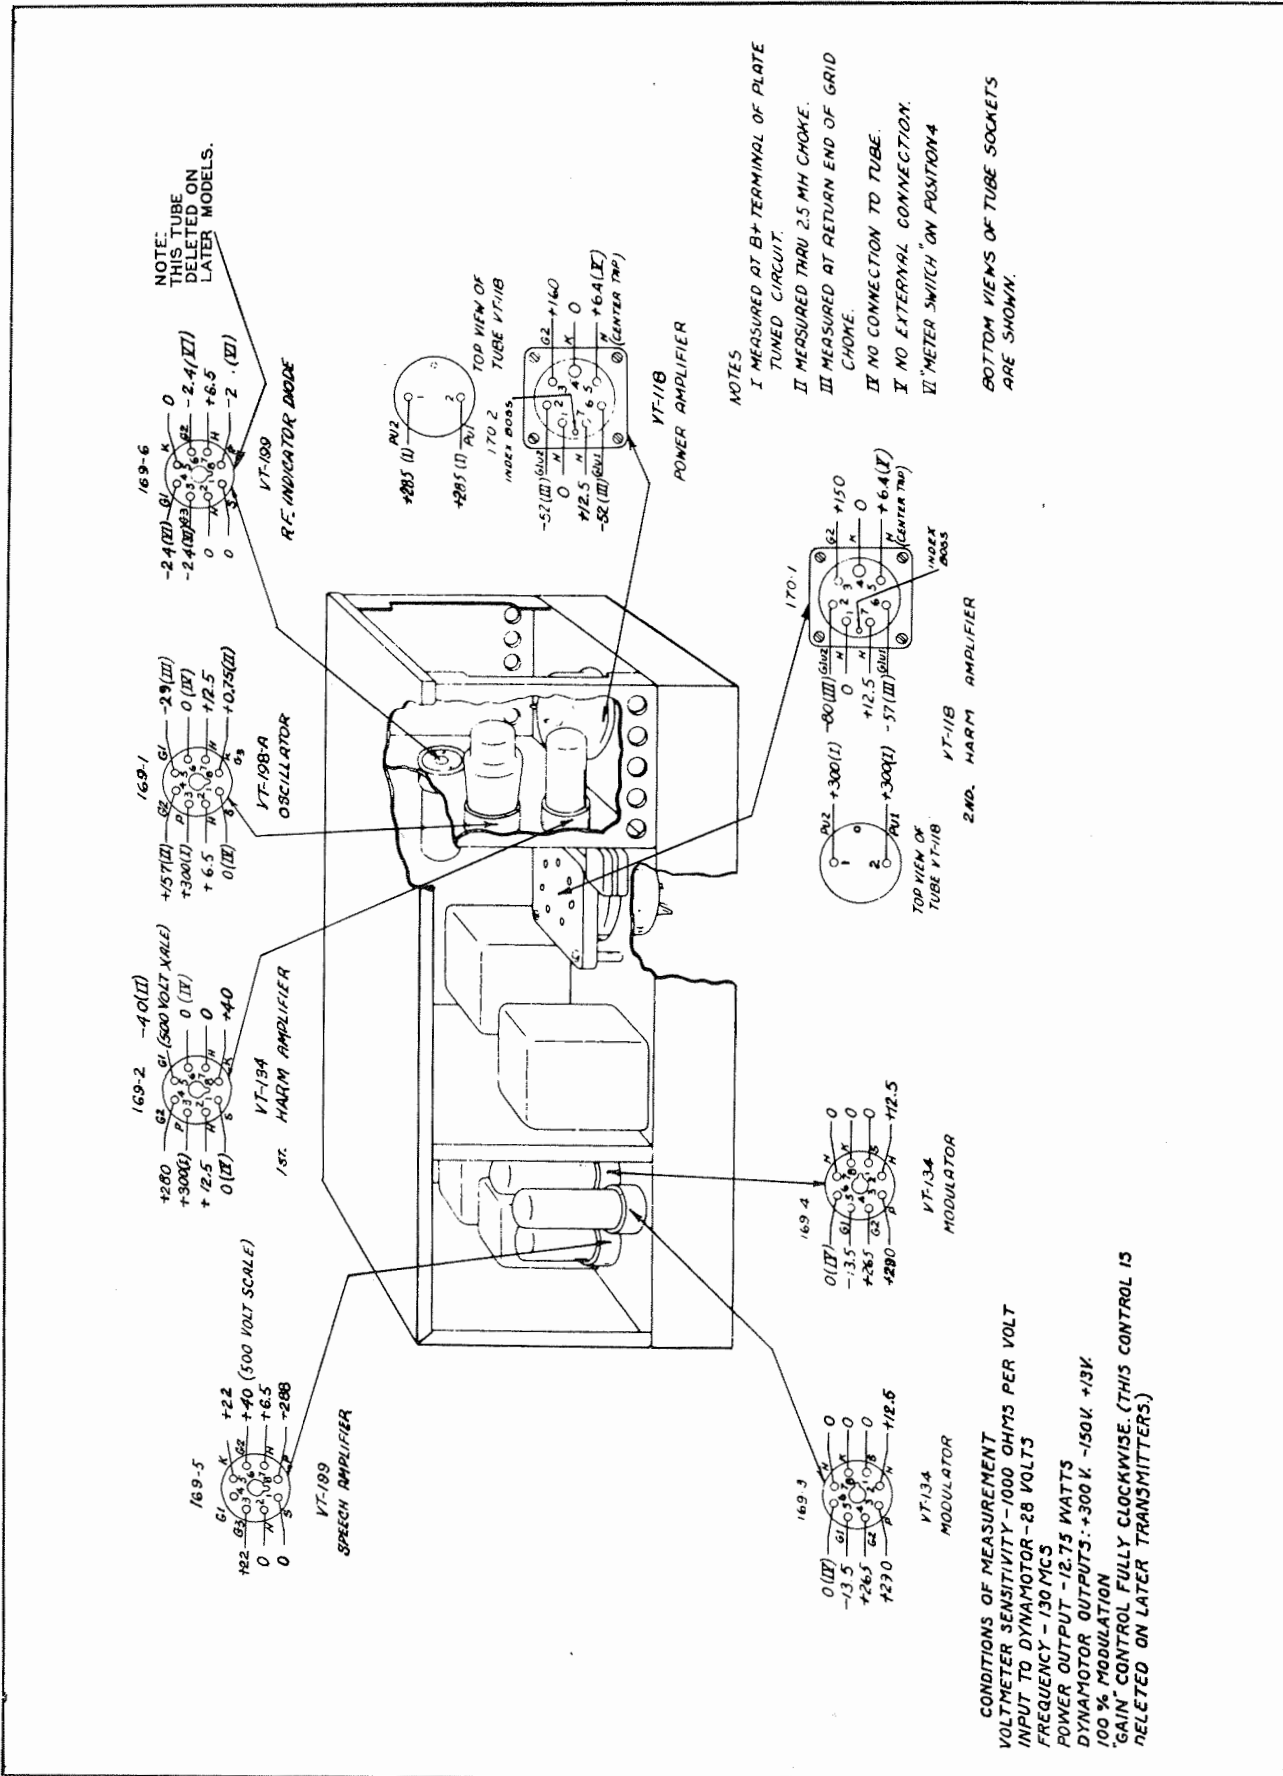

Figure 5-2. Transmitter Tube Socket Layout and Voltages
(1) Loosen the Dzus fasteners at the top front and top rear of Case CS-80-A or CS-80-C. Grasp the rack by the recessed handles and remove it, together with the transmitter and receiver, from the case.
(2) Loosen the Dzus fasteners that hold the top covers to the center of the rack and take out the four screws that hold the top covers at the sides. Take off the covers.
(3) Place the assembly on its side on a test bench, so that the transmitter vacuum tube sockets are accessible.
(4) Connect the proper plugs to the sockets on the rack and to a proper voltage source of supply. Connect antenna AN-94-A, AN-94-B, AN-94-C or AN-188 to the antenna socket on the rack.
(5) Turn the equipment on by pressing any channel button on the radio control box.
(6) Using Test Set I-56-(*) or equivalent (measuring sensitivity of 1000 ohms per volt), make the transmitter socket voltage measurements listed in the chart below.
(7) Make all measurements to chassis ground and on the 500-volt scale unless otherwise specified. Follow the additional suggestions in the voltage diagram (fig. 5-2).
(8) If the voltages vary appreciably (more than plus or minus 15 percent from the values given in the chart below), make a further examination of the components associated with the circuit.